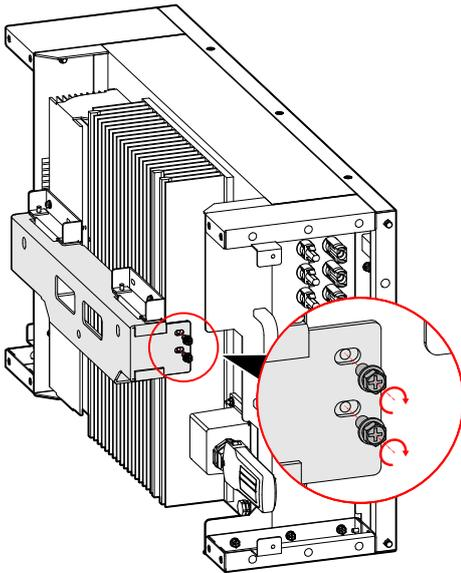

Figure3-26 Fix the inverter
3. Fix the inverter, as shown in Figure3-26.